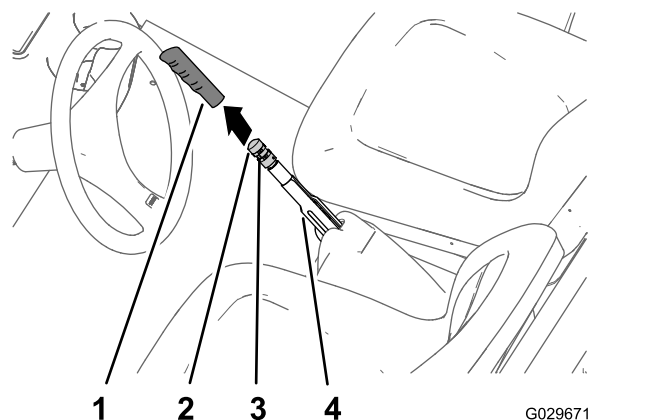

Figure 63
1. Remove the handgrip from the parking-brake lever (Figure 63).
2. Loosen the set screw securing the brake-adjustment knob to the parking-brake lever (Figure 63).
3. Rotate the brake-adjustment knob until you reach a force of 133 to 156 N (30 to 35 lbf) to engage the parking-brake lever (Figure 63).
4. Tighten the set screw and install the hand grip (Figure 63).
2. Loosen the set screw (Figure 63) securing the brake-adjustment knob to the parking-brake lever, disengage the parking brake, and loosen the brake-adjustment knob.
- C. Rotate the brake-adjustment knob (Figure 63) until a force of 133 to 156 N (30 to 35 lbf) is required to engage the parking-brake lever.
- Tighten the set screw and install the handgrip (Figure 63).
5. Rotate the brake-adjustment knob (Figure 63) until a force of 133 to 156 N (30 to 35 lbf) is required to engage the parking-brake lever.